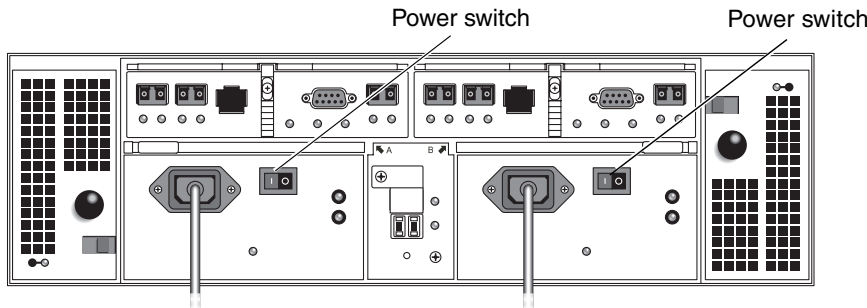

FIGURE 3-1 Tray Power Connectors and Switches
1. Turn off both power switches on each tray that you want to connect to the cabinet's main power (FIGURE 3-1).